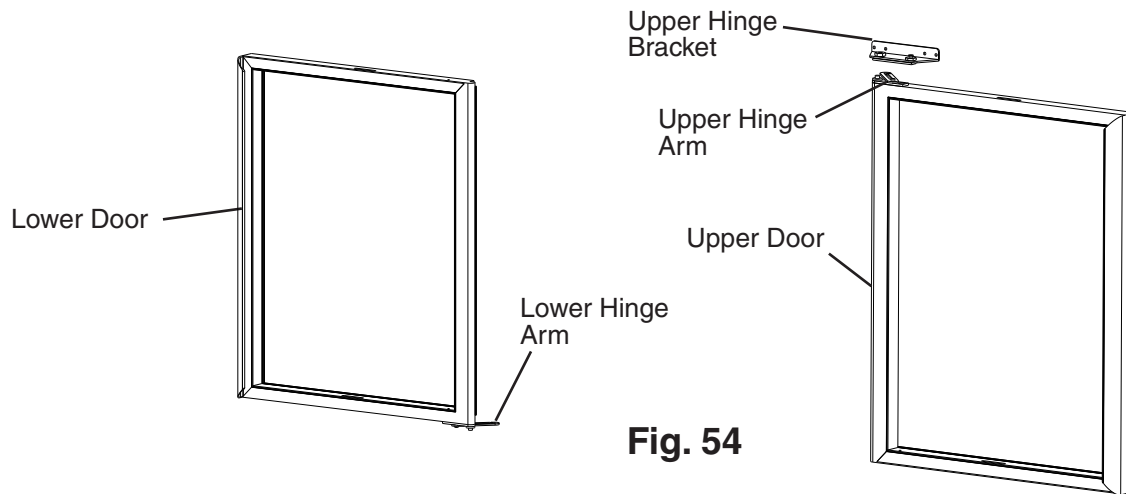

Fig. 54
- 12) Rotate the upper hinge bracket 180 degrees, then place and secure it in the new lower hinge bracket position. See Fig. 54. **NOTICE! Be sure to reuse the bracket screws for mounting the bracket as the bracket screws are 5x12 and filler screws are 5x10.**